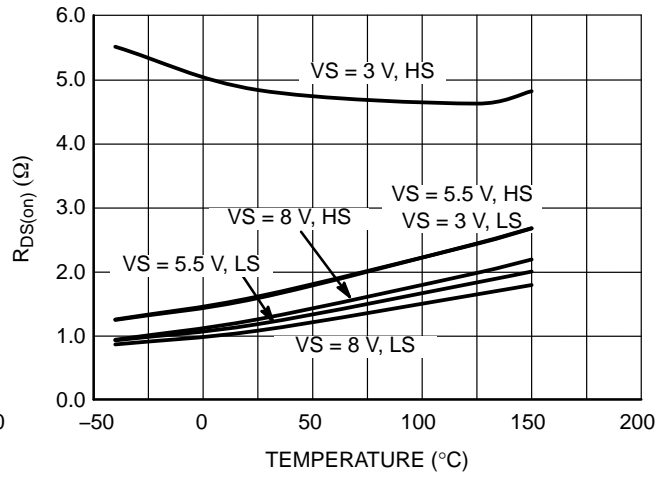

Figure 12. RDS(on) vs. Temperature
- Refer to Figures 12 and 15 for  $R_{DS(on)}$  behavior.